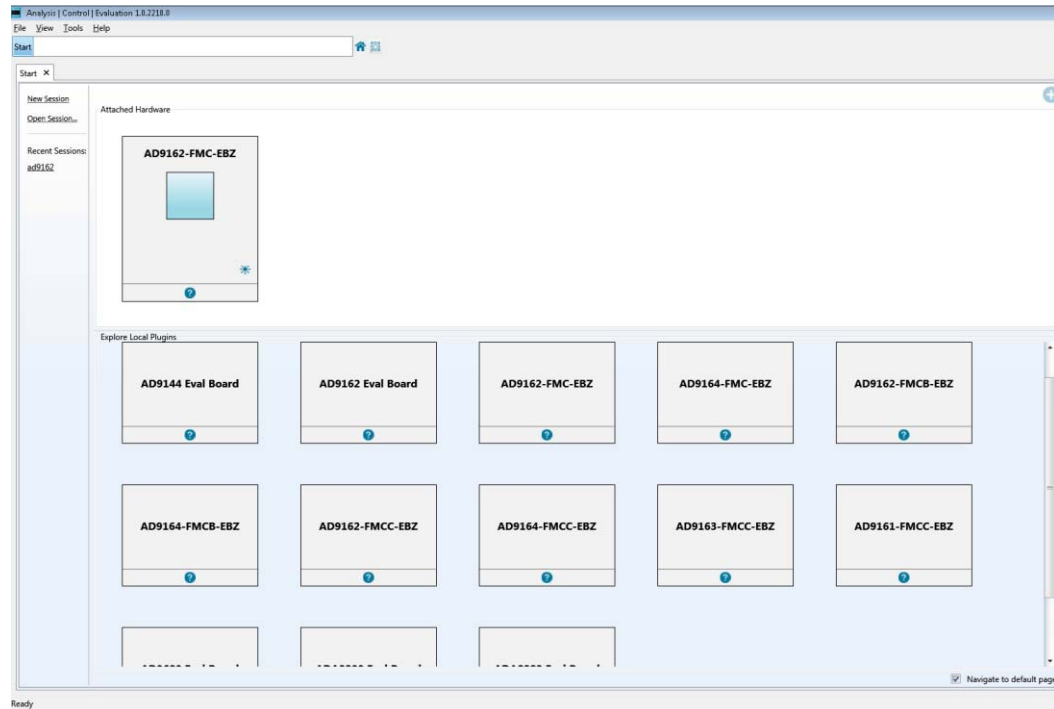

Figure 5. The entry screen of the ACE SPI programmer software
1. Open the ACE software, which is located in Start->Programs->Analog Devices->ACE->ACE. The screen will appear similar to Figure 5 below. ACE is the software that is used to load the registers in the AD9162. The ACE software enables full access to the AD9162 register map, and also has several views and features that simplify its use. Many of the ACE software features will be covered in the ACE Software User's Guide section. This section will focus on what is necessary to start-up the AD9162 in DC TEST/NCO mode.